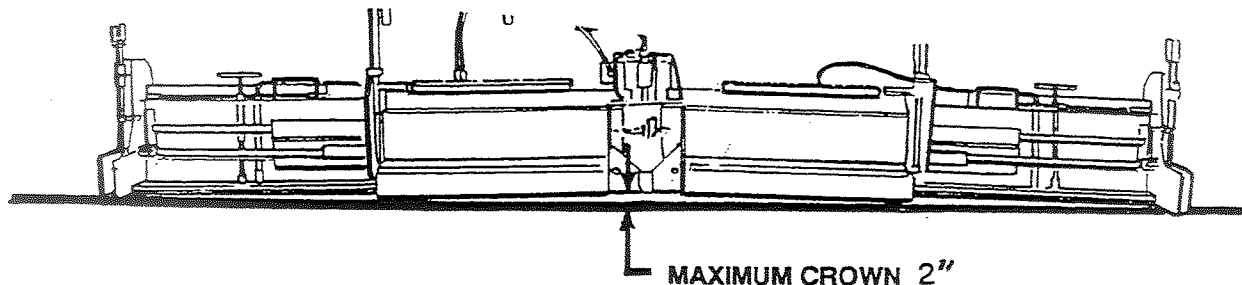

FIGURE 24
10. Set crown control. The screed plate is a one-piece unit which is actually bent to provide the required crown setting. See figures 24 and 25.
11. To get exact crown or valley, measure the distance between a flat level surface to the center bottom portion of screed. See figure 24. Make adjustments with crown and valley control.